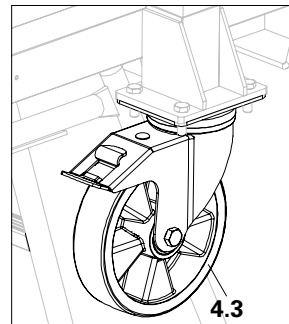
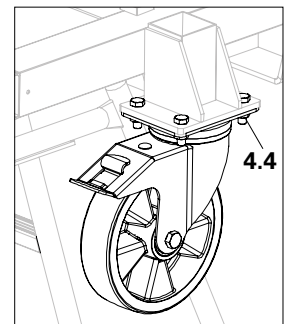

Fig. A1.02b
Fig. A1.02c
3. Attach the castor wheel (**4.3**) (art. no.: 111690) to the bolts (**4.2**) and tighten it with the four numbers of M10 nut (**4.4**) (art. no.: 710234). (Fig. A1.02b + Fig. A1.02c)